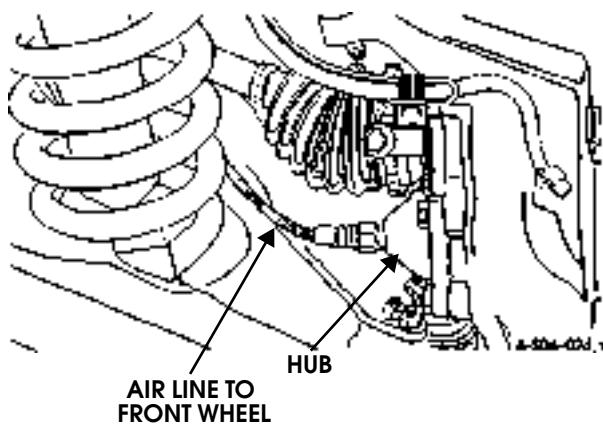

Figure 6-69: Line Connection to Hub
1. Disconnect line at front hub (Figure 6-69).